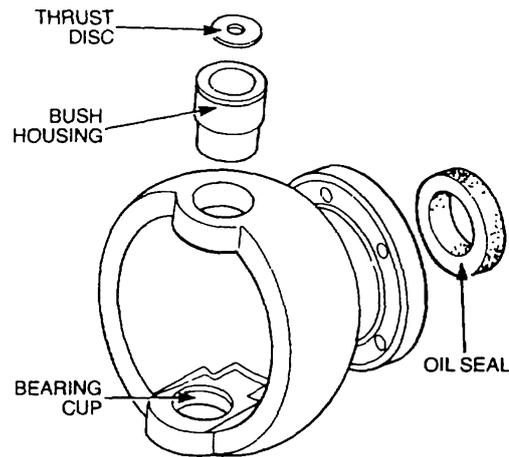

Figure 115 Bearing Housing Disassembly
- a. Remove the oil seal from the bearing housing (Figure 115).
- e. Press the oil seal into the bearing housing, plain side first (Figure 115).